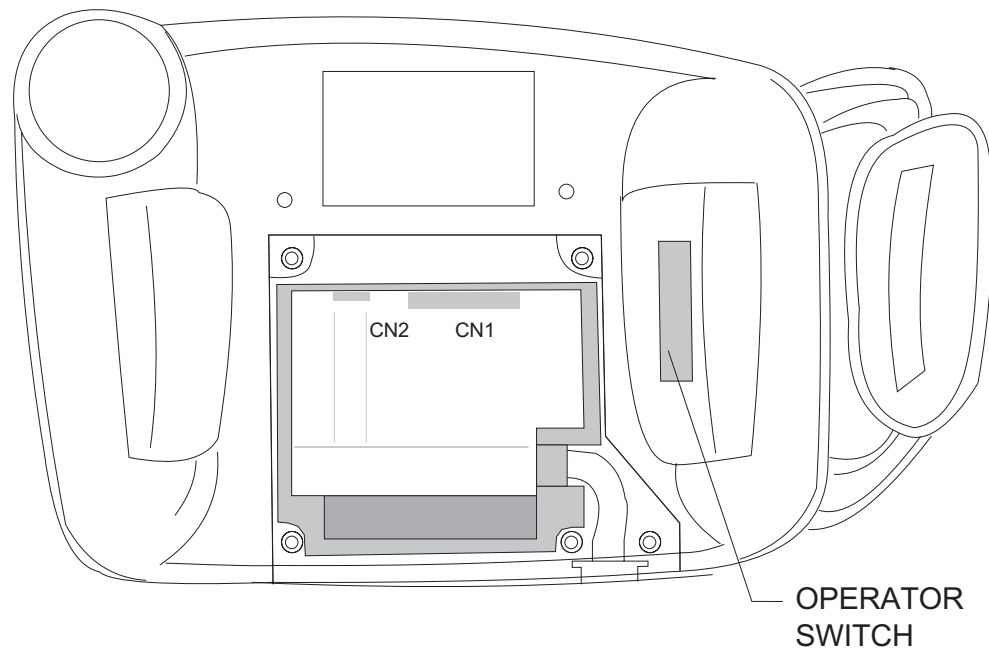

Figure 8, 6" Hand Held QuickPanel 2 Rear View Outline Drawing
- 2) Connect the CBL-QP2H-TB/12 to CN1 such that the cord-grip strain relief provided on the cable can be inserted into the slot provided in the Hand Held QP2 housing (Refer to Figure 8).
- 3) Press the CBL-QP2H-TB/12 into the cable trough provided in the Hand Held QP2 housing (Refer to Figure 8). Be sure to place the neoprene gasket piece over the top of the cable after it is pressed into the cable trough.
- 4) Insert the cord-grip strain relief on the CBL-QP2H-TB/12 into the slot provided in the Hand Held QP2 housing (Refer to Figure 8). Be sure that the curved side of the cord grip strain relief is facing up, otherwise the back cover will not fit properly.